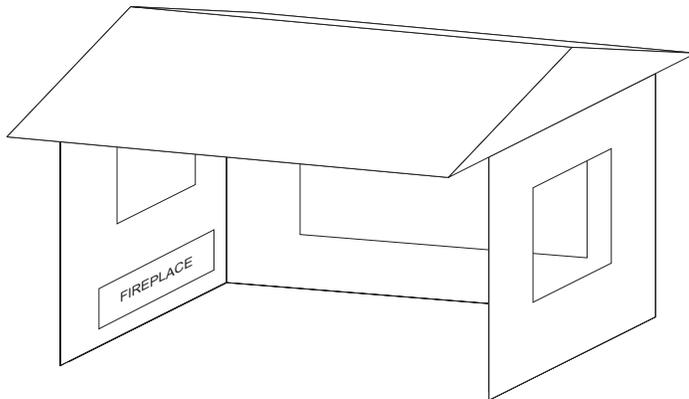

Figure 7
- Within a partial enclosure which includes an overhead cover and three sidewalls, as long as 30% or more of the horizontal periphery (i.e. perimeter) of the enclosures is permanently open; such as an open porch. See Figure 7.